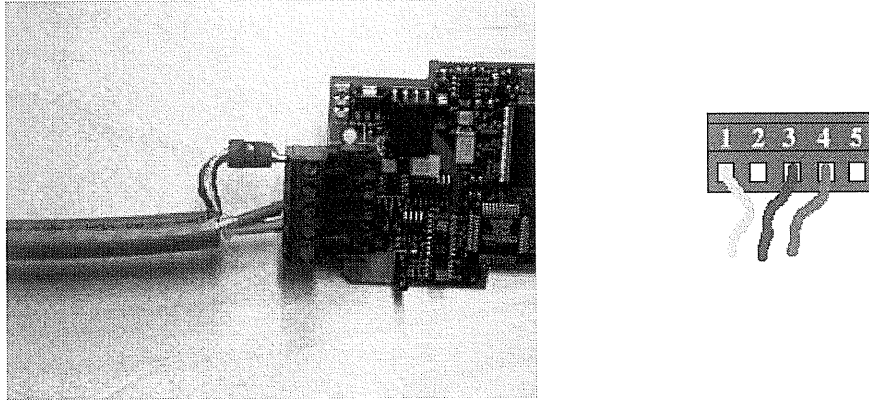

Figure 4-6. Connecting the Ground Cable
3. Insert the red and green data cables of both Profibus cables into terminals #3 (red) and #4 (green). See Figure 4-6.